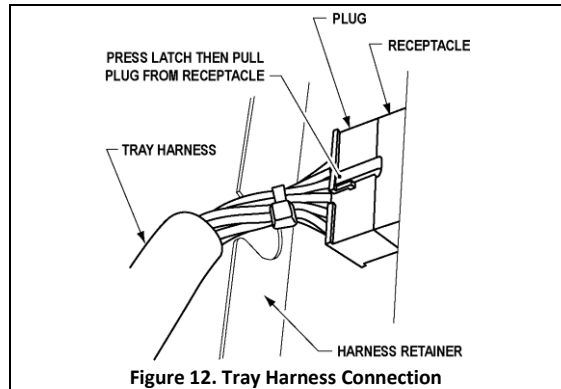

Figure 12. Tray Harness Connection
2. Disengage the tray harness from its retainer on the right side wall. See Figure 12. Disconnect the tray plug from its receptacle on the right side wall.
8. Re-engage the tray harness into its harness retainer. See Figure 12.
2. Disengage the tray harness from its retainer on the right side wall. See Figure 12. Disconnect the tray plug from its receptacle the harness retainer on the right sidewall.
12. Re-engage the tray harness into its harness retainer (See Figure 12)
2. Disengage the tray harness from its harness retainer on the right side wall. See Figure 12. Disconnect the tray plug from its receptacle on the right side wall.
3. Remove and save the six (6) screws that fasten the tray to the left and right slides. Lift up and forward to remove the tray.